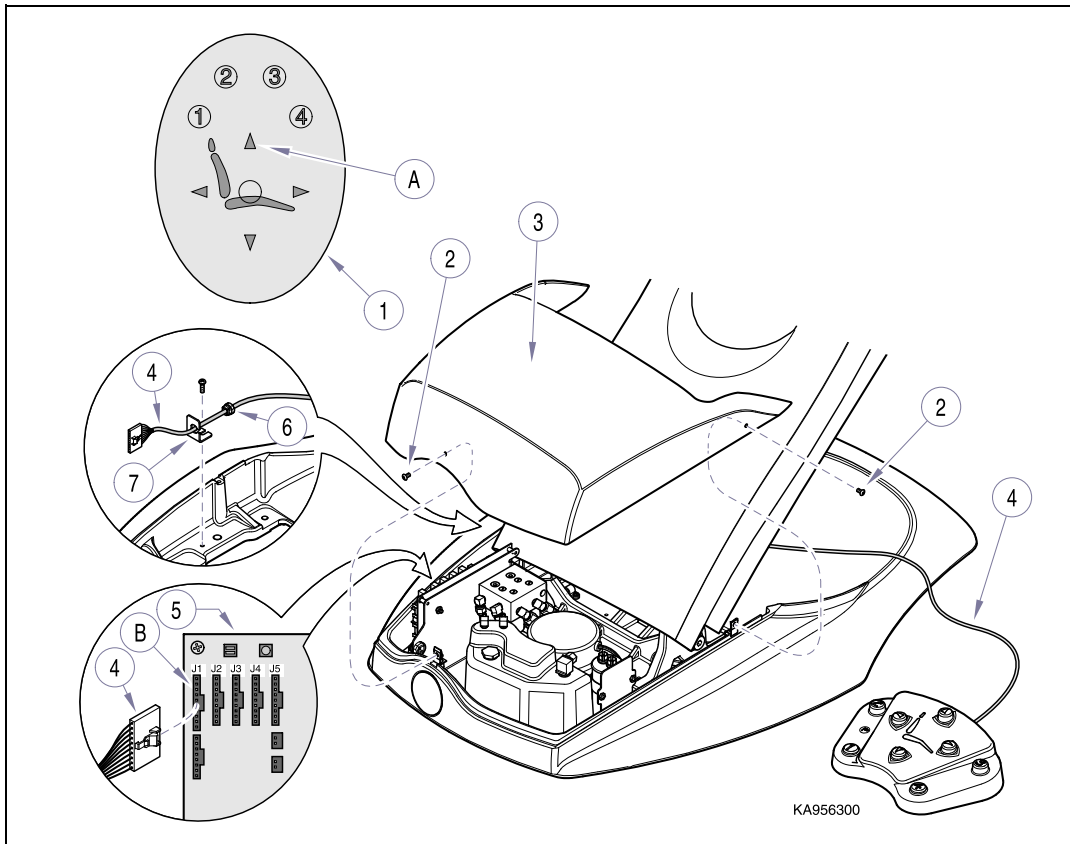

Figure 4-26. Foot Switch Control
- (3) Install strain relief bushing (6, Fig. 4-26) on to cable (4) and insert cable and strain relief bushing thru hole in restraint bracket (7).
- (4) Install restraint bracket (7) on chair base.
- (5) Plug cable (4) into J1 connector (2) on p.c. board.
- (6) Install hydraulic cover (refer to para 4.3).
- (7) Plug chair into outlet and check operation.